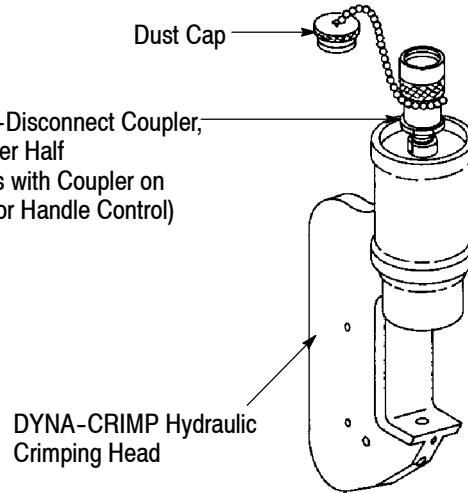

Figure 1
This instruction sheet provides instructions on product application, and maintenance and inspection procedures for DYNA-CRIMP Crimping Head 69099 shown in Figure 1.
3. Mate both of the quick-disconnect couplers and tighten the collar of the coupler assembly of the crimping head. See Figure 1.